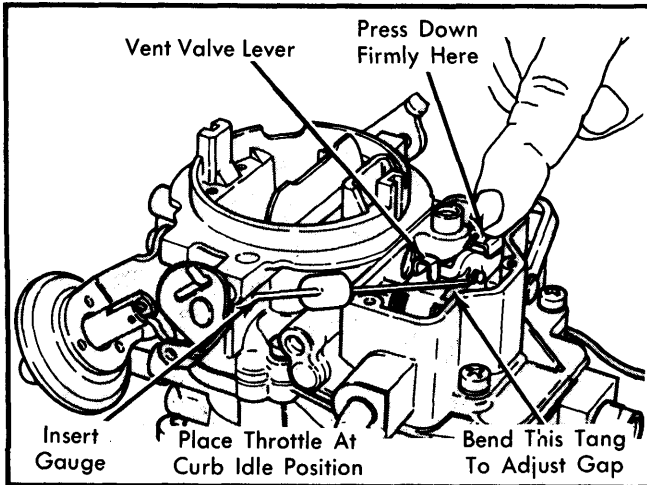

Fig. 6 Adjusting Bowl Vent Valve
1) Remove bowl vent valve cover and spring. Take care not to dislodge or lose vent valve lever retainer. Position throttle at curb idle position. See Fig. 6.